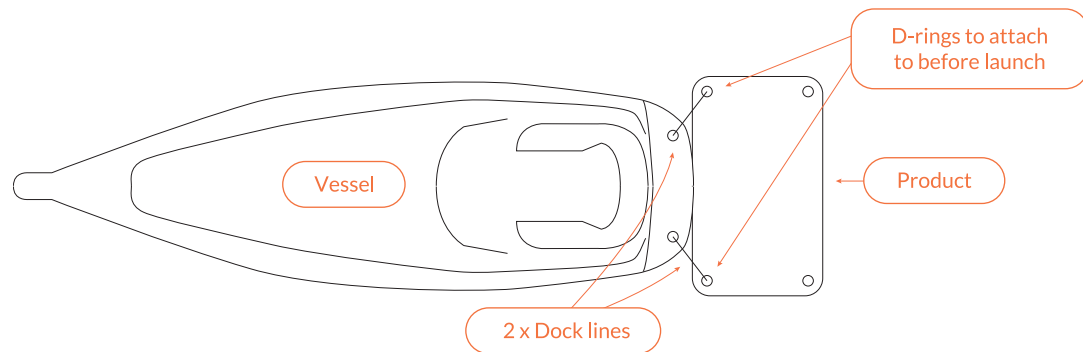

Fig 36 – Securing across the transom
1. **Securing to Transoms:** Choose the side or end of the Product that will sit across the back of the transom and locate the 2 **closest** D-rings on the Product to the vessel (Fig 36).